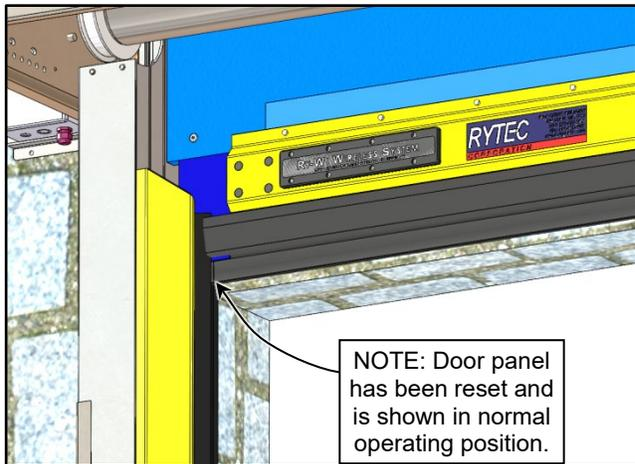

Figure 11
5. Then the door panel will guide itself into the channel and resume its normal operation. (See Figure 11)